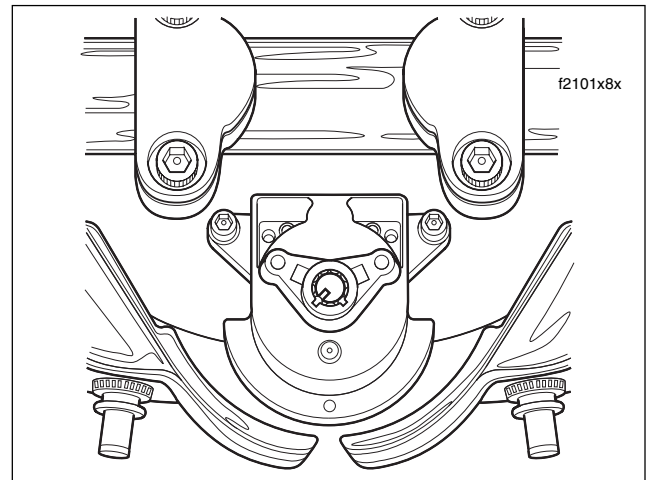

Figure 8-79. Fork Lock (FLHR/C/S)
3. Remove two allen head socket screws (with flat washers) and pull fork lock assembly from upper fork bracket bore. See Figure 8-79.
1. Install **new** fork lock assembly into bore of upper fork bracket. See Figure 8-79.